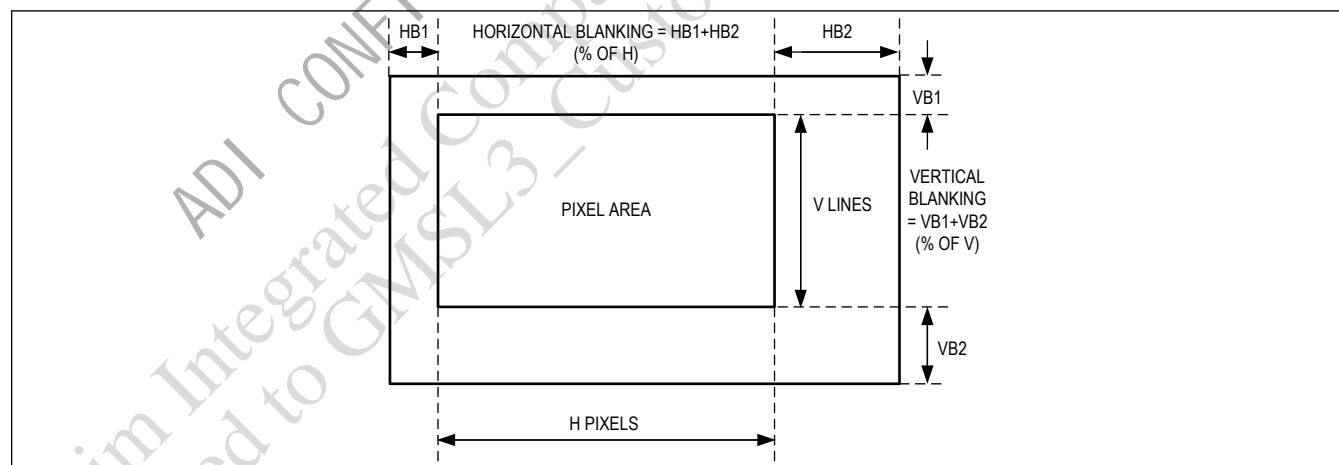

Figure 26. Video Frame Format for Bandwidth Calculation
Ensure the worst use cases do not exceed the available throughput of the forward and reverse links. Analog Devices' Evaluation Kit (EVK) GUI includes a bandwidth (BW) calculator for initial bandwidth requirements estimates. Analog Devices also has other tools to calculate link bandwidth utilization. Consult the factory for high-bandwidth use cases for error-free performance. See Figure 26 for definitions of terms.